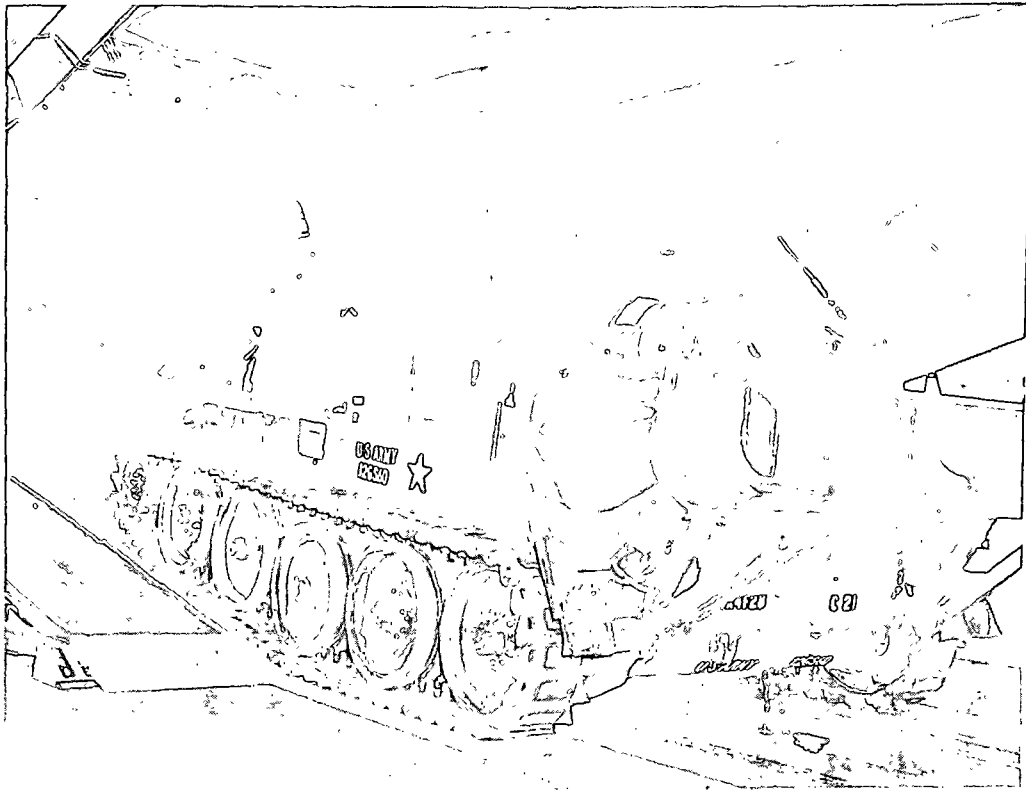

Figure 2-43. Loading the M107 gun over the aft ramp. Note the barrel in the depressed position.
d. Drive the two M107's into the cargo compartment as shown in figures 2-43 and 2-44 and park with the front of each vehicle at station numbers prescribed in tiedown diagram (fig 2-45).